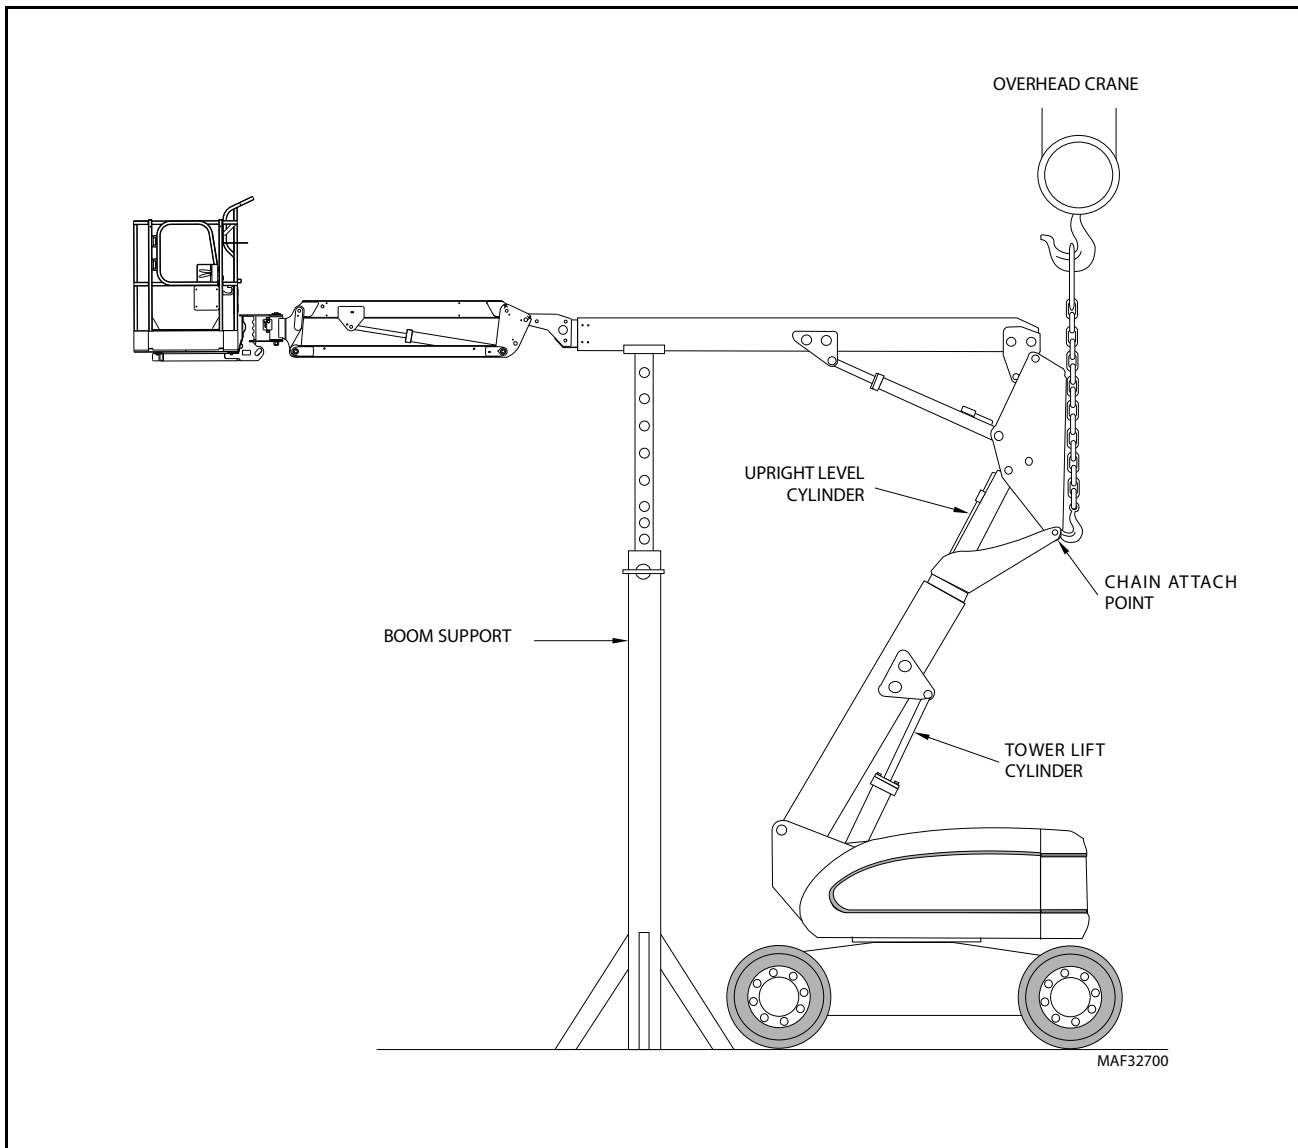

Figure 5-20. Boom Positioning and Support, Cylinder Repair
2. Position and support main boom as shown in Figure 5-20. Boom Positioning and Support, Cylinder Repair.
3. Remove bolt and retaining pin from leveling cylinder to upright pin (1).
4. Support upper boom assembly with overhead crane. Raise boom until tension is released from cylinder pin (1).
5. Drive barrel end attach pin (1) through mounting holes in upright and leveling cylinder using a suitable drift.
6. Remove mounting hardware from upright to tower boom assembly pivot pin (2).
7. Drive pivot pin (2) through mounting holes in upright and tower boom assembly using a suitable drift.
11. Remove mounting hardware from leveling cylinder to tower boom fly assembly rod end pin (3).
12. Drive leveling cylinder pin (3) through mounting holes in tower boom fly and leveling cylinder using a suitable drift. Remove leveling cylinder.
NOTE: Refer to Figure 5-20. Boom Positioning and Support, Cylinder Repair.
1. With main boom and tower boom positioned and supported as in Figure 5-20. Boom Positioning and Support, Cylinder Repair, place tower lift cylinder in position on turntable. Secure in place using slings.